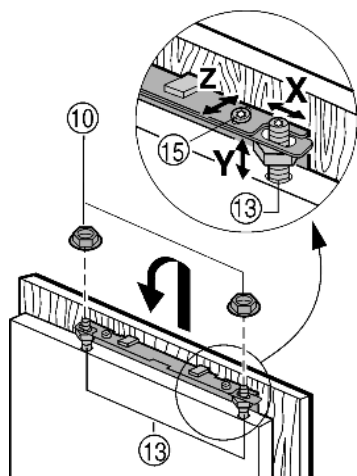

Fig. 20
- Attach the unit door on the adjusting bolts Fig. 20 (13) and loosely screw locknuts Fig. 20 (10) onto the adjusting bolts.
- To align the unit door in the Y direction (height) and in lateral inclination: Adjust the adjusting bolts Fig. 20 (13) with a screwdriver.
- Tighten the locknuts Fig. 20 (10).